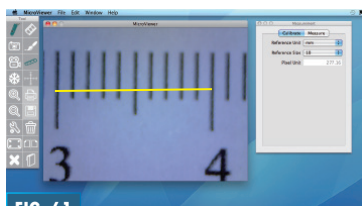

FIG. 61
5. Release the mouse button, and the calibration is complete. (**Fig. 61**).